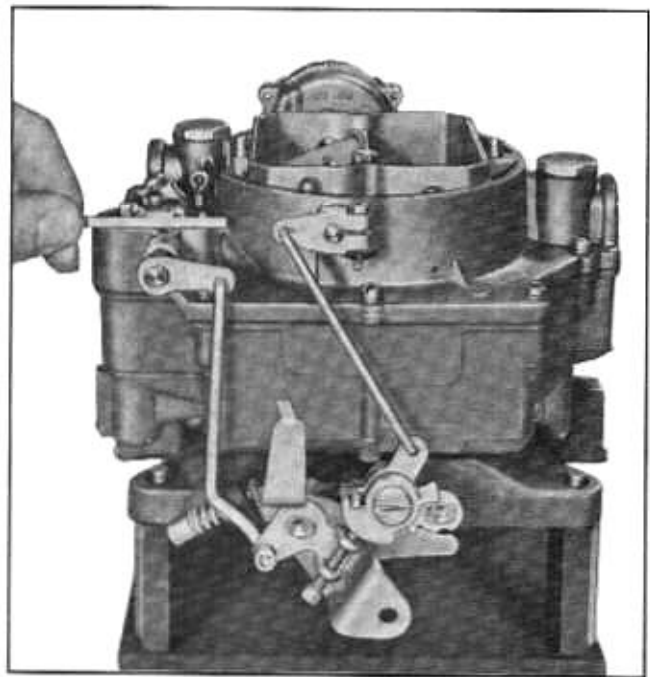

Fig. 6B-30 Accelerating Pump Arm Adjustment
2. Hold straight edge across top of dust cover boss at pump arm (Fig. 6B-30). Bend throttle connector rod at lower angle (use tool J-5496) until flat on top of pump arm is parallel with straight edge while throttle valves are seated.